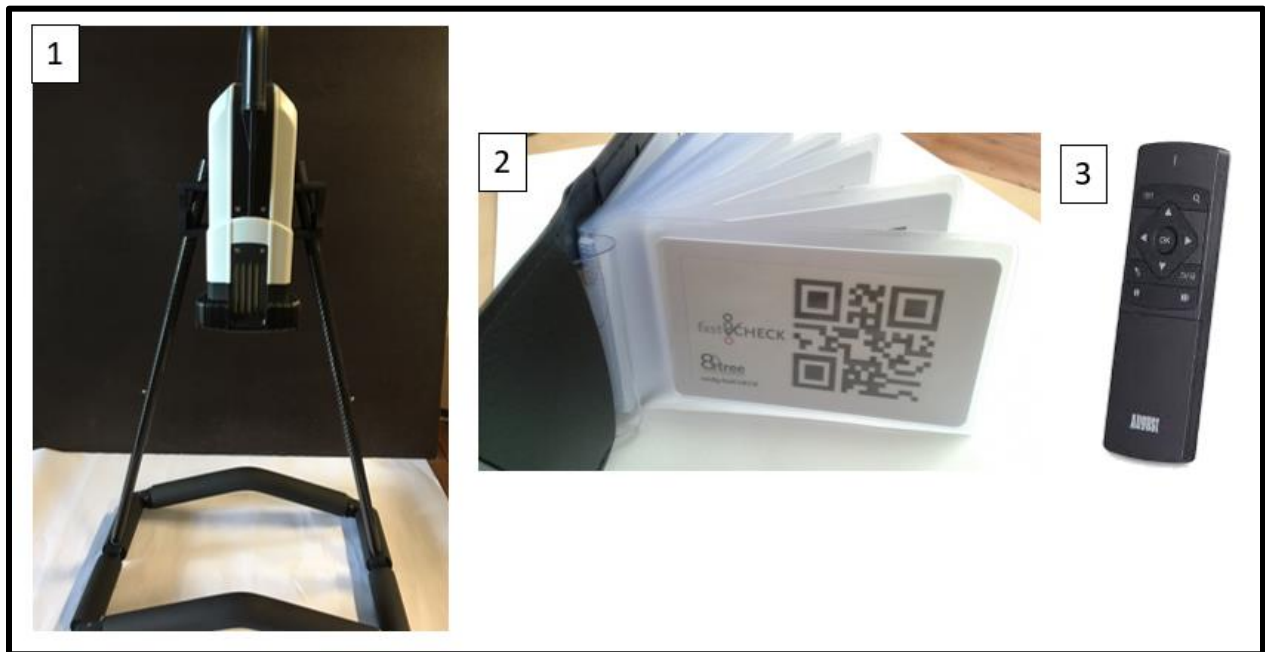

Figure 7
- Place the dentCHECK tool in the upright position. (Figure 7)